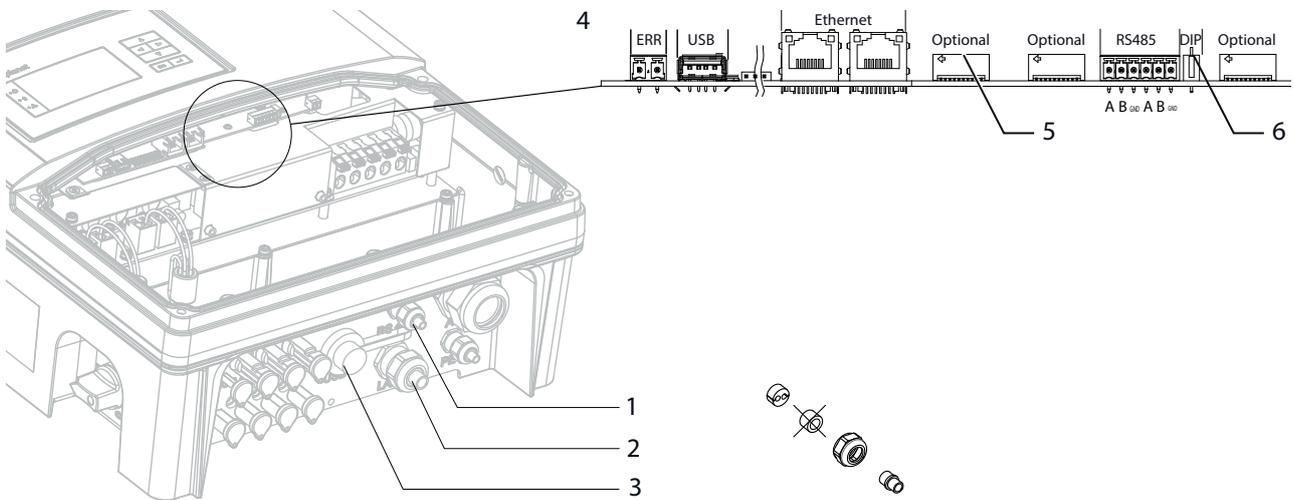

Figure 22: Connection area: Connection and assignment of the interfaces
All interfaces are located on the connection circuit board behind the cover for the connection area. Use the cable fittings and plug connections provided (see Figure 22 on page 24).
1. Loosen and remove the cover of the cable fitting (see Figure 22 on page 24).
- ⌚ Observe the wire pairing when connecting DATA+ and DATA- (see Figure 22 on page 24).
1. Connect the connection cable to the corresponding connection terminals (Figure 22).
- ☞ Only activate the terminating resistor on the communication circuit board of the terminal unit using the DIP switch. (See Figure 22 on page 24)